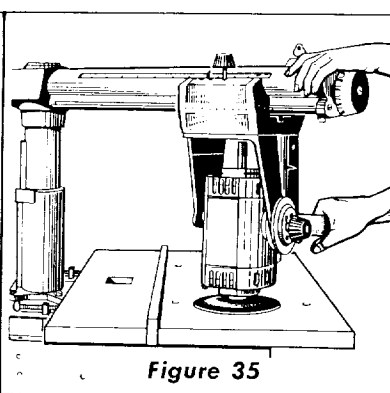

Figure 35
3. When sanding the table top (See Figure 35) or routing with the work stationary, the arm lock pin can be prevented from automatically indexing at 0° and 45° by rotating the arm latch handle about 6 turns counter-clockwise from the locked position.